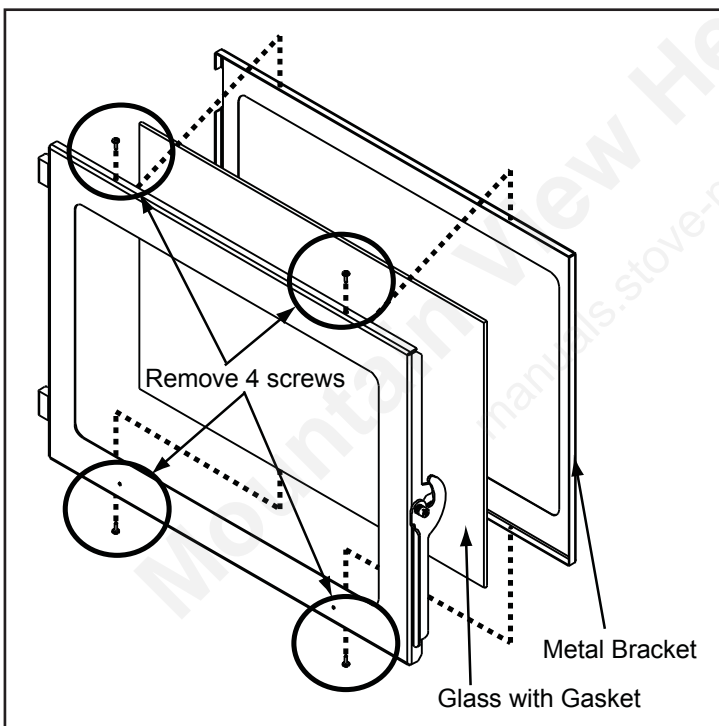

Figure 41.1
- b. Using a Phillips head screw driver, remove 4 screws 2 on the top and 2 on the bottom. Remove metal bracket and then remove the glass. **Figure 41.1.**